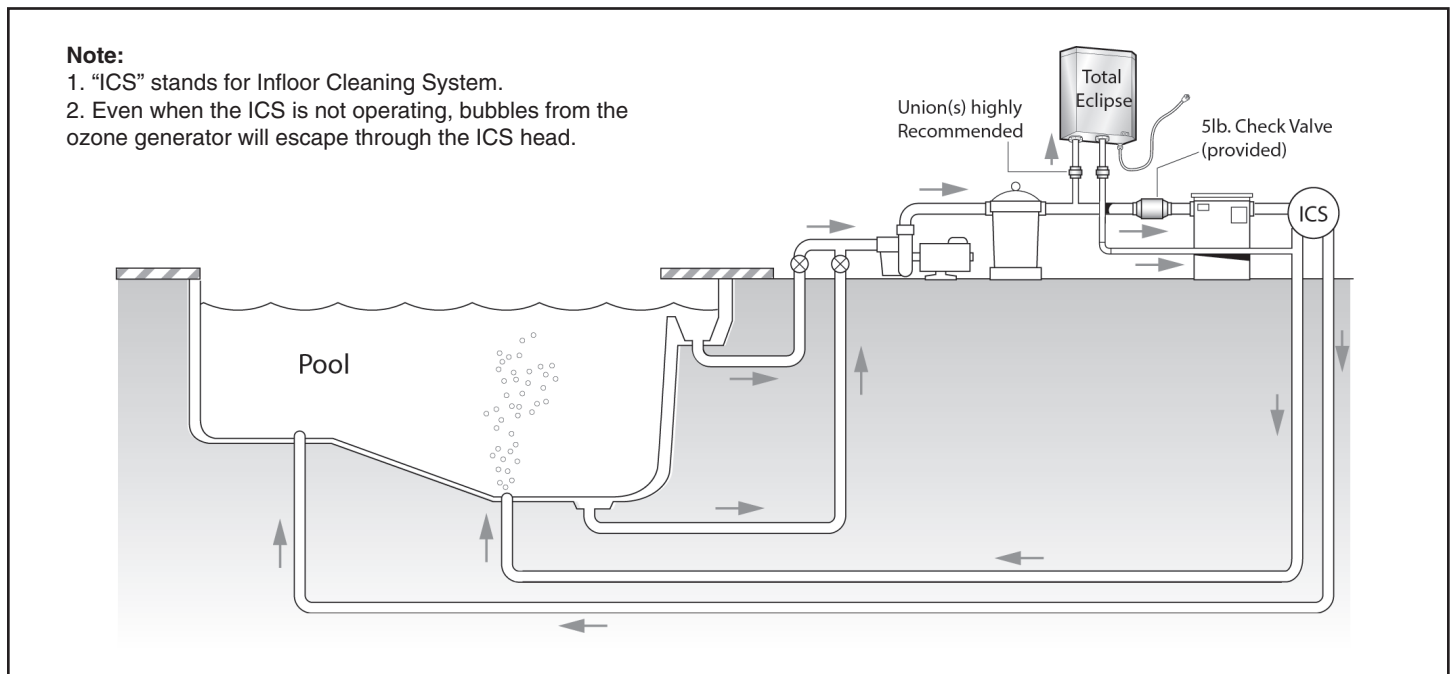
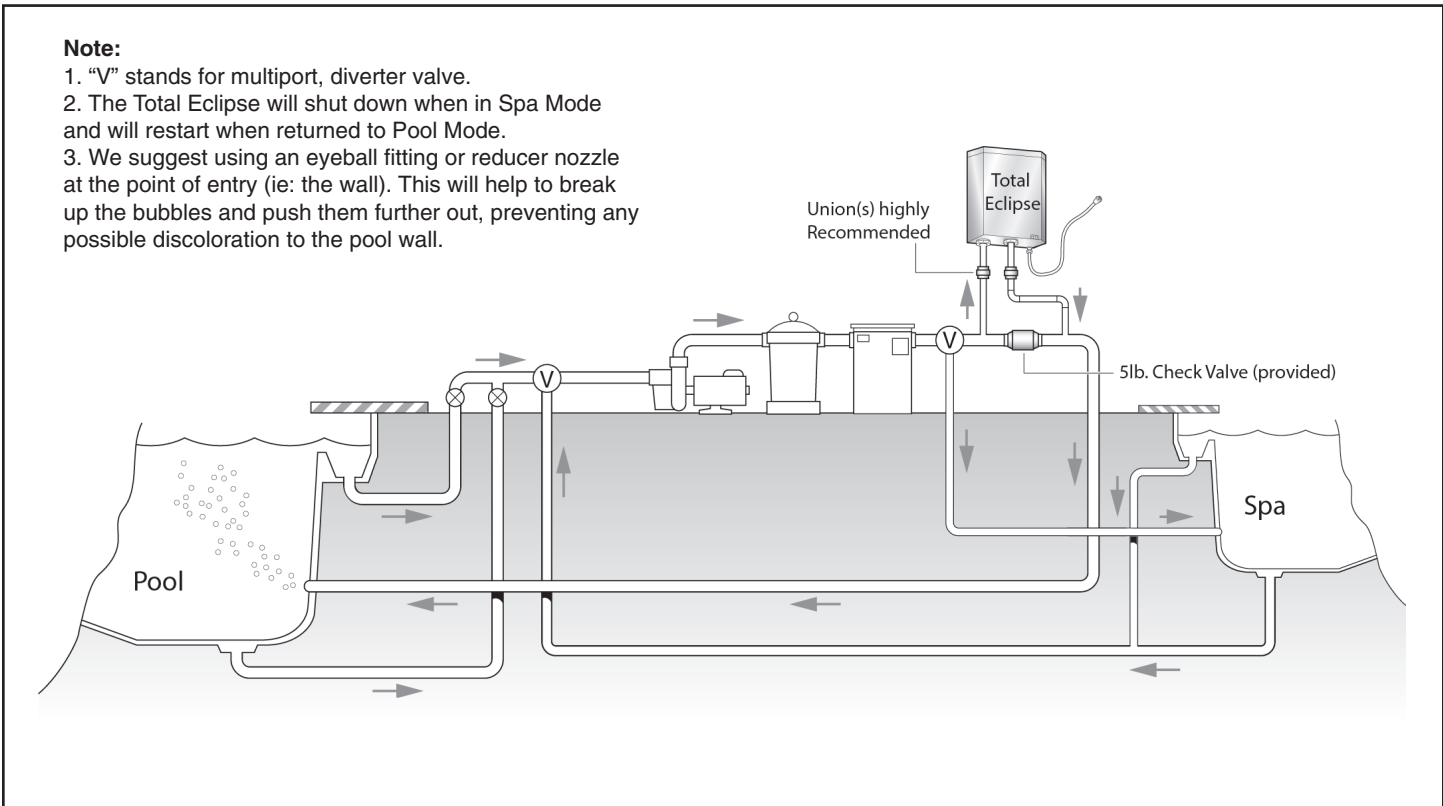
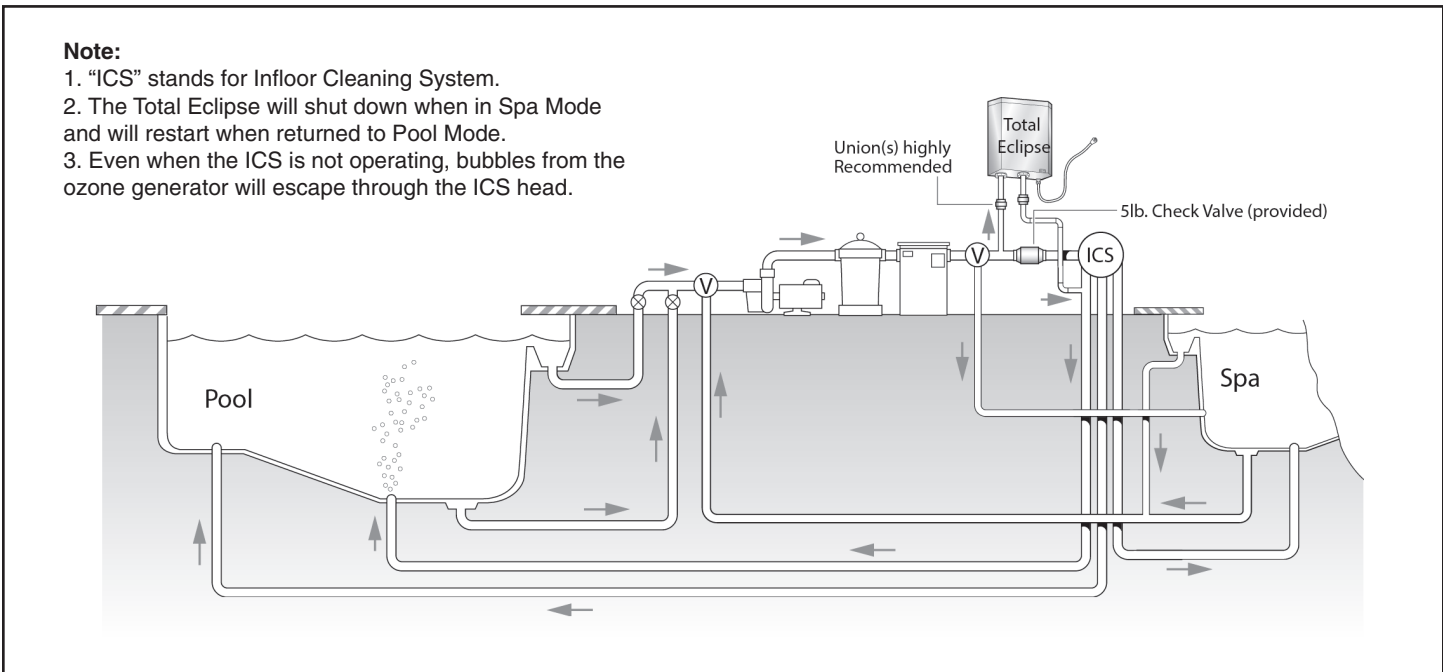

Figure 2: Existing Pool with Infloor Cleaning System
Figure 3: Existing Pool/Spa Combination without Infloor Cleaning System
Figure 4: Existing Pool/Spa Combination with Infloor Cleaning System
4. For optimum ozone distribution, the ozonated water should be returned back to the pool through a dedicated pipe in the bottom of the pool. If it is not possible to install with the dedicated return to the bottom of the pool, then install the Total Eclipse as shown in Figures 2, 3, or 4 based on the specific configuration of your system. These installation figures cover the following installation types: Figure 2—existing pools with in-floor cleaning system (ICS); Figure 3—existing pool/spa combination without in-floor cleaning system; Figure 4—existing pool/spa combination with in-floor cleaning system.
- a. Plumb the Water Inlet to the Total Eclipse as shown in Figures 2, 3, and 4,